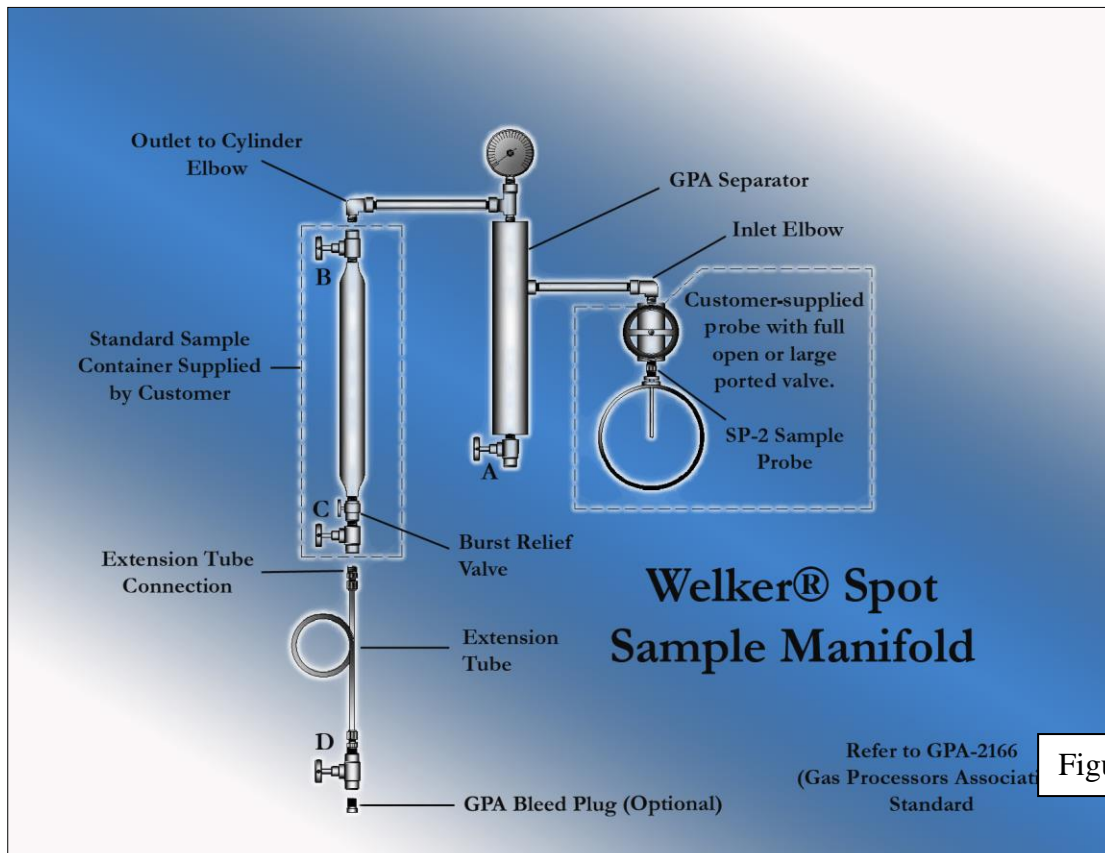

Figure 1
2.2 INSTALLATION INSTRUCTIONS (REFER TO FIGURE 1 ON PAGE 4)
4. Connect the system as shown in Figure 1.